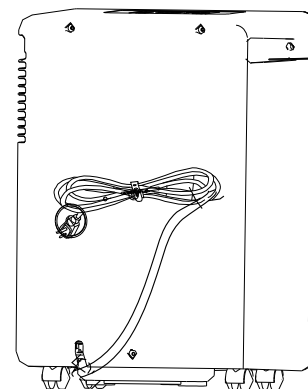

FIG. 14: Cord Storage
- Wrap the cord and bundle it with the band on the unit. (See Fig. 14).